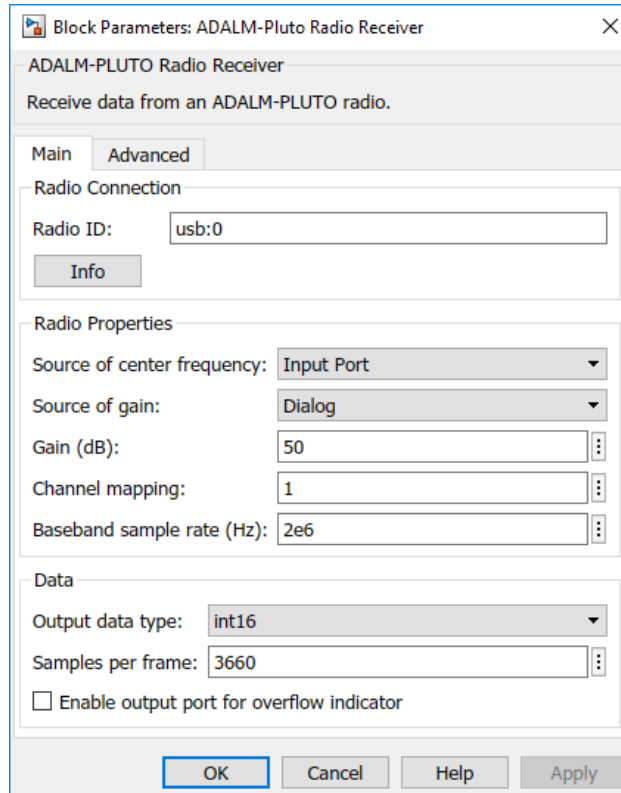

Figure 12: ADALM-PLUTO Radio block configuration for Spectrum Analyzer.
3. Configure the **ADALM-PLUTO Radio Receiver** block as shown in Figure 12. The key settings and their meaning are as follows: